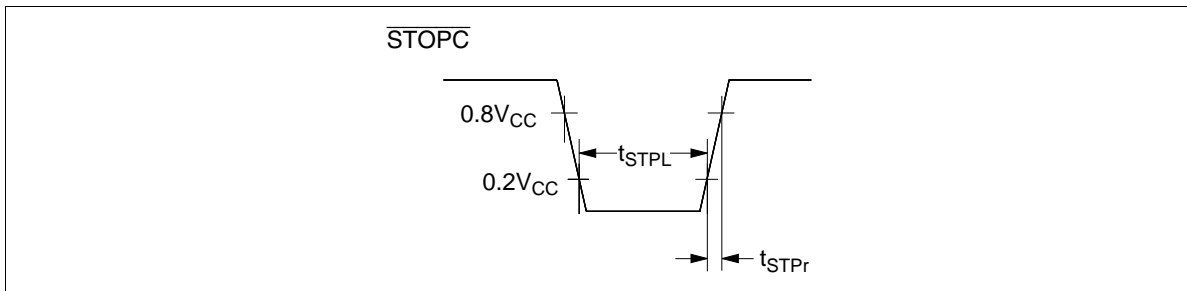

Figure 87 \overline{STOPC} Timing
6. Refer to figure 87.
8. Refer to figure 87.